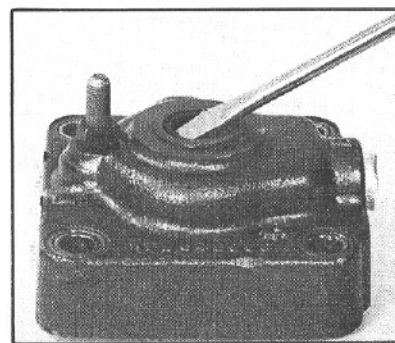

Figure 59
- 27. Remove and discard the dirt and water seal (4) (FIG. 59).